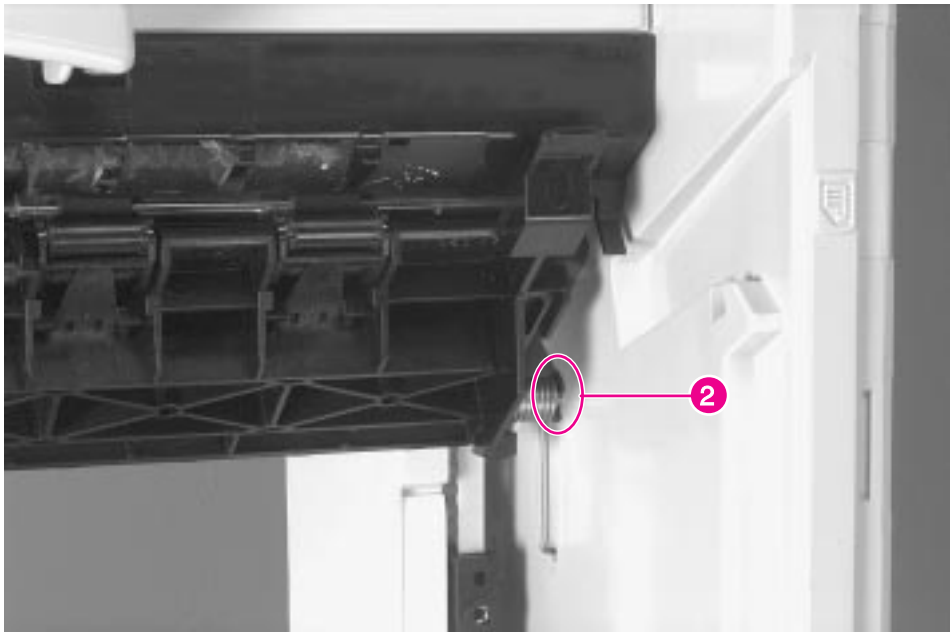

Figure 6-64 Mailbox with Stapler, Jam Access Door E-Clip
- 6 From the front of the unit, remove 1 e-clip from the right end of the shaft (figure 6-64, callout 2).